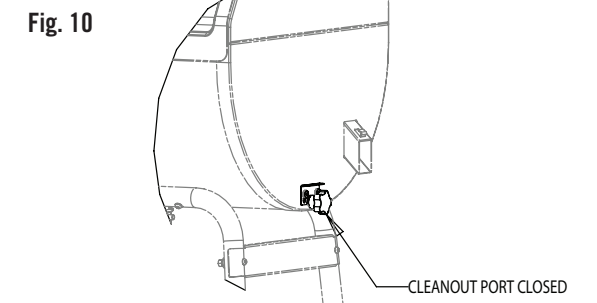

Fig. 10
1. Clean-out Port knob must be pushed in when grill is on. Make sure pullout lock is pushed down and locks the knob to prevent inadvertent opening of the clean-out port. See Fig 10.